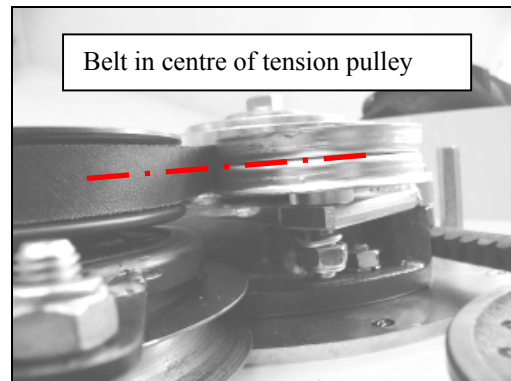

Fig. 46
- Check that the belt is in the centre of the tension pulley (Fig. 46)